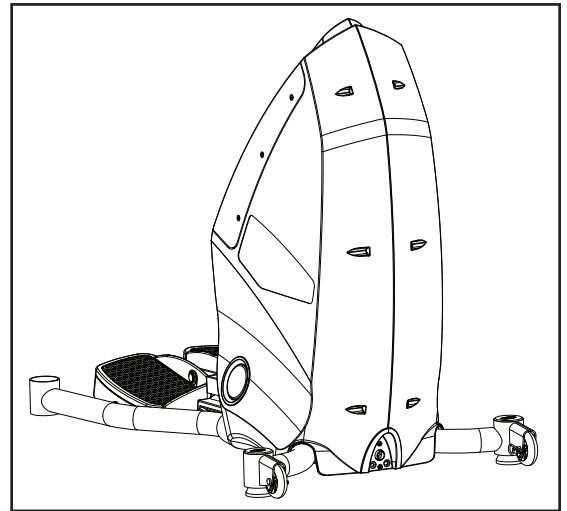

Figure 6
- 4-1 Pull the lower body of the SC916 forward, and with the assistance of another person lift the machine off the shipping pallet and on to the floor (see Figure 6).